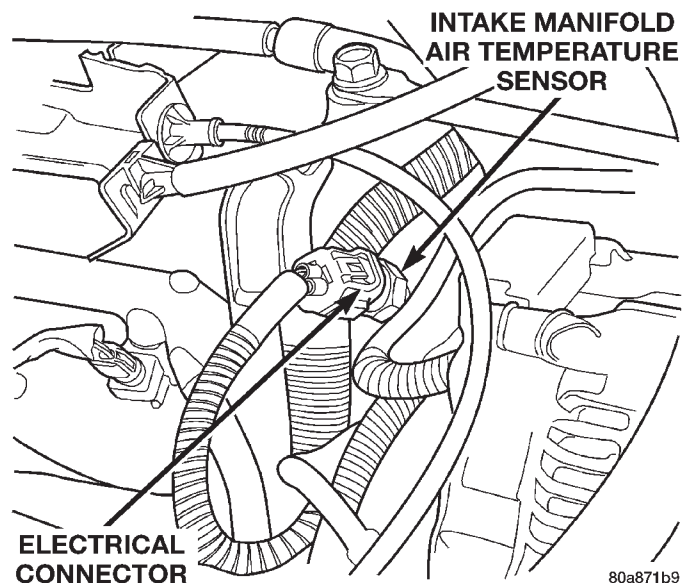

Fig. 89 Air Temperature Sensor—5.2L/5.9L Engines—Typical
The intake manifold air temperature sensor is located in the front/side of the intake manifold (Fig. 89).
- (1) Disconnect electrical connector at sensor (Fig. 89).
- (2) Remove sensor from intake manifold.